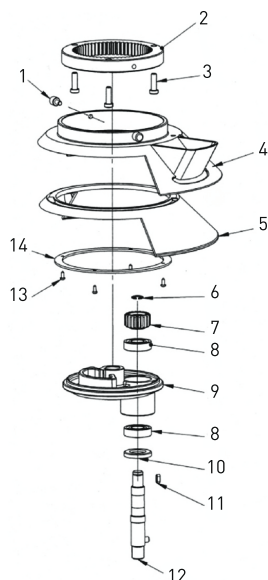

Figure 4: Bowl guard and turning axle
- Bowl guard and turning axle (Figure 4).
Machine part list of Figure 4